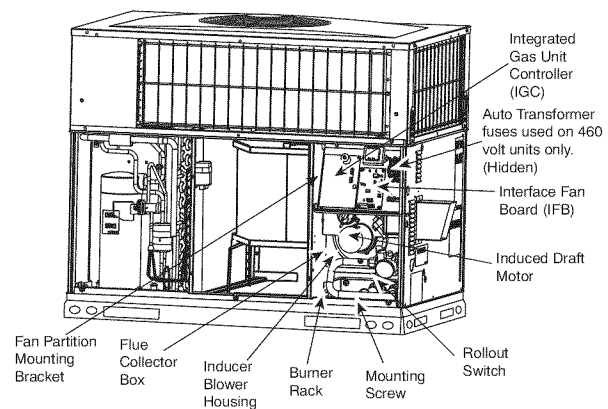

Fig. 18 - Blower Housing and Flue Collector Box
2. Remove the 11 screws holding the flue collector box cover (See Fig. 18) to the heat exchanger assembly. Inspect the heat exchangers.
Unit is equipped with a direct spark ignition 100 percent lockout system. Ignition module (IGC) is located in the control box (See Fig. 18). Module contains a self-diagnostic LED. During servicing, refer to label diagram or Table 5 in these instructions for LED interpretation.
5. Remove fan partition mounting bracket (2 screws located on the left side of control compartment on the fan partition panel). Slide bracket forward, bottom first, to remove. (See Fig. 18.)
7. Remove the mounting screw that attaches the burner rack to the unit base (See Fig. 18).
8. Partially slide the burner rack out of the unit (see Fig. 18 and 21). Remove ignitor and sensor wires at the burner assembly. Remove wires to rollout switch.
9. Slide the burner rack out of the unit (See Fig. 18 and 21).